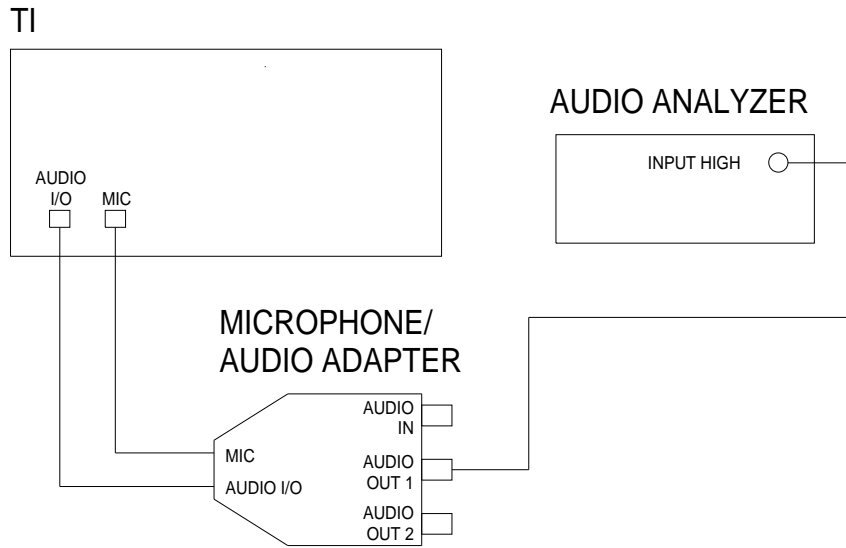

Figure 9.
4.27.2 Connect equipment as shown in Figure 9.